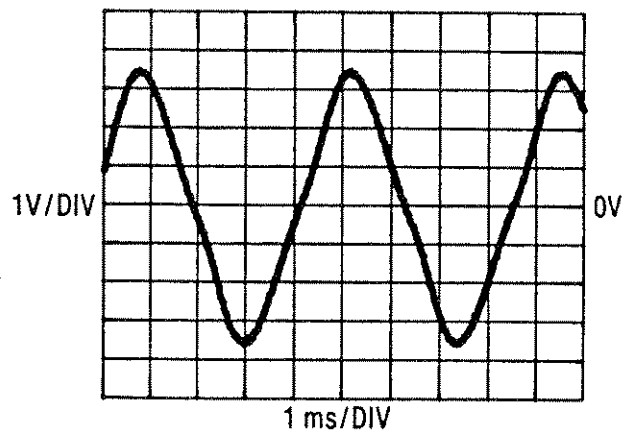

Figure 8-43. AC Gain Stage Waveform
3. Compare the waveform at A5TP15 with Figure 8-43. If the waveform is incorrect, perform the Range Attenuator ($\div 1$, $\div 10$, $\div 100$) and AC Gain Stage Tests. If the waveform is normal, continue with step 4.